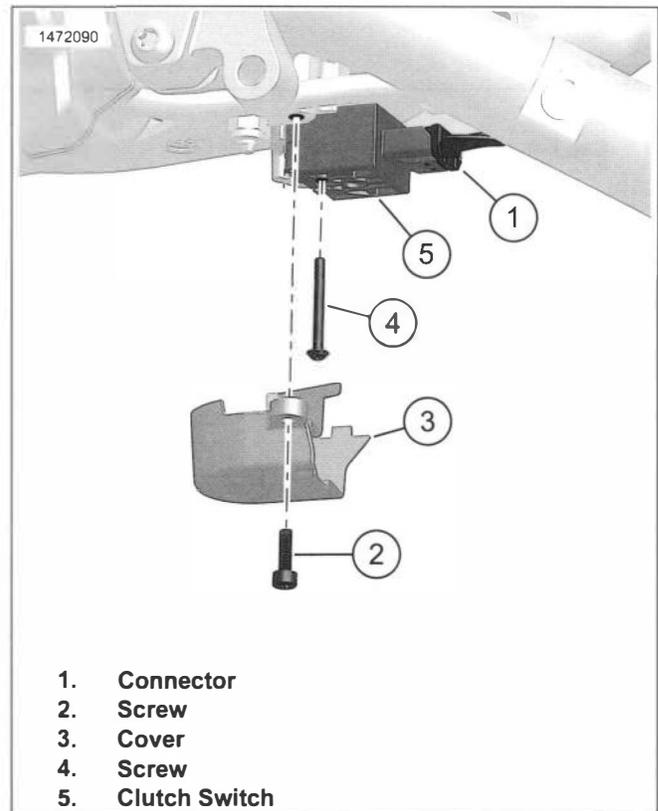

Figure 8-30. Clutch Switch
1. See Figure 8-30. Remove cover.
- a. Remove screw (2).
- b. Remove cover (3).
- a. Disconnect connector (1).
- b. Remove screw (4).
- c. Remove switch (5).
1. See Figure 8-30. Install clutch hand control switch.
- a. Install clutch switch (5).
- b. Install screw (4). Tighten.